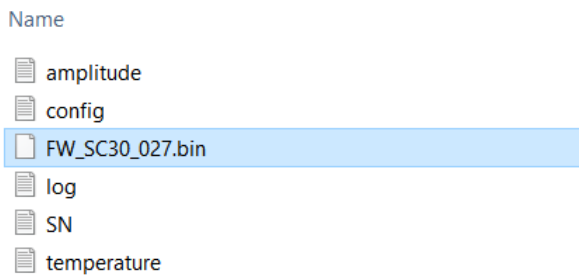

Figure 2: Configuring the firmware of the SC-30 Control Unit.
- Replace the .bin file of the installed firmware by the file *FW\_SC30\_027.bin* (see Fig. 2)